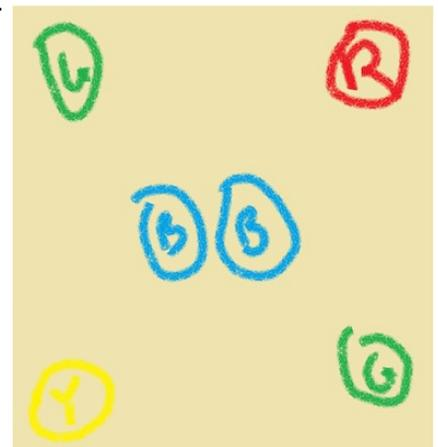

Figure 3: An imperfect hand-drawn representation of the requirement.
Important: Do not to show them the example above until **after** Round One. Instead, draw it imperfectly (see Figure 3 for an example). Then, when they do the game, they certainly won't get it right. You can then discuss acceptance criteria during the discussion. However, people typically don't get it right even if you give them an exact example.
6. The tester verifies the end result against Figure 3 (they won't have seen Figure 2 yet!), separating the defective ones from the correct ones